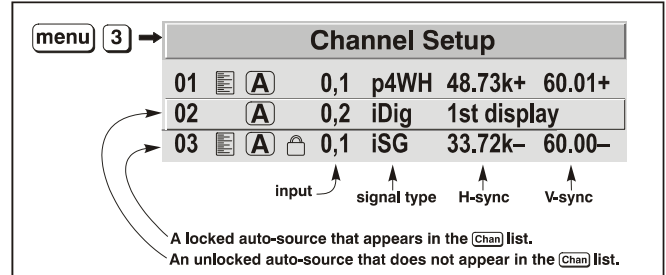

Figure 3.10. All Channels Appear in the Channel Setup Menu
- ▶ All available channels are listed in the *Channel Setup* menu (Figure 3.10), which describes how each channel can be accessed and which serves as the gateway for editing, copying and deleting channels.